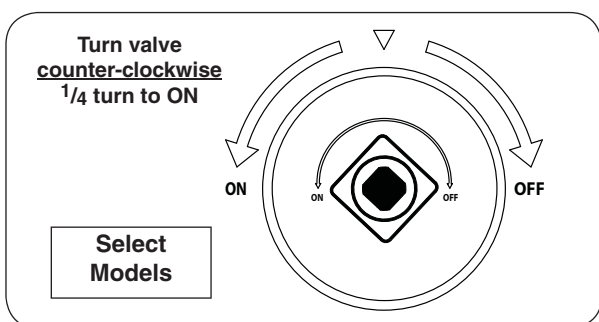

Fig. 43-2 ON/OFF key valve detail
2. If equipped, turn the ON/OFF key valve counter-clockwise a $\frac{1}{4}$ turn to the **ON** position (Fig. 43-2).